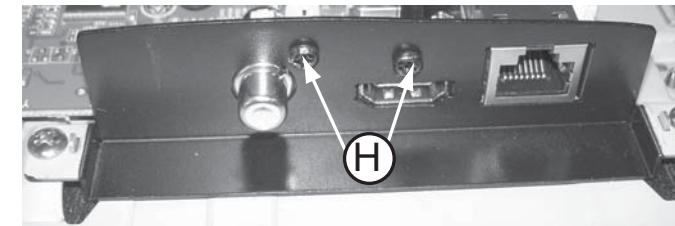

Figure 8
- 1) Loosen 2 screws "H" at the BD board jack bracket as shown in figure 8.